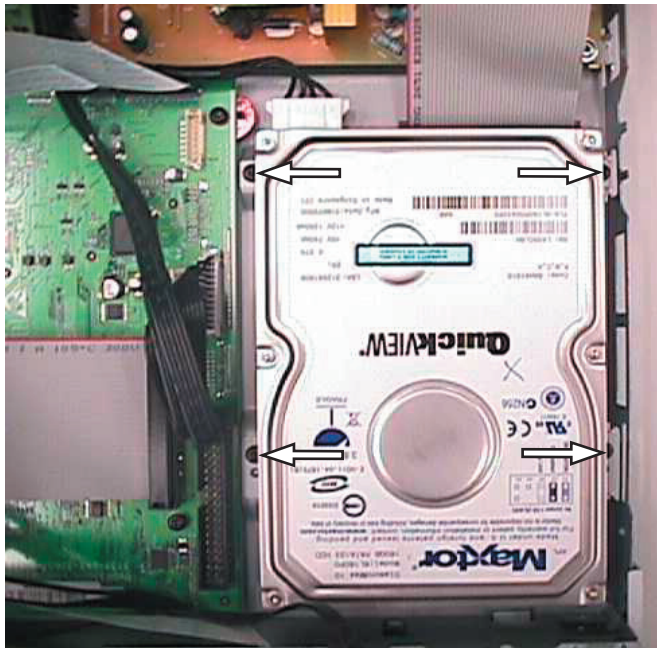

Figure 4-7
- 3) Remove 4 screws to loosen the HDD assembly 1007 + 264 as shown in Figure 4-7.